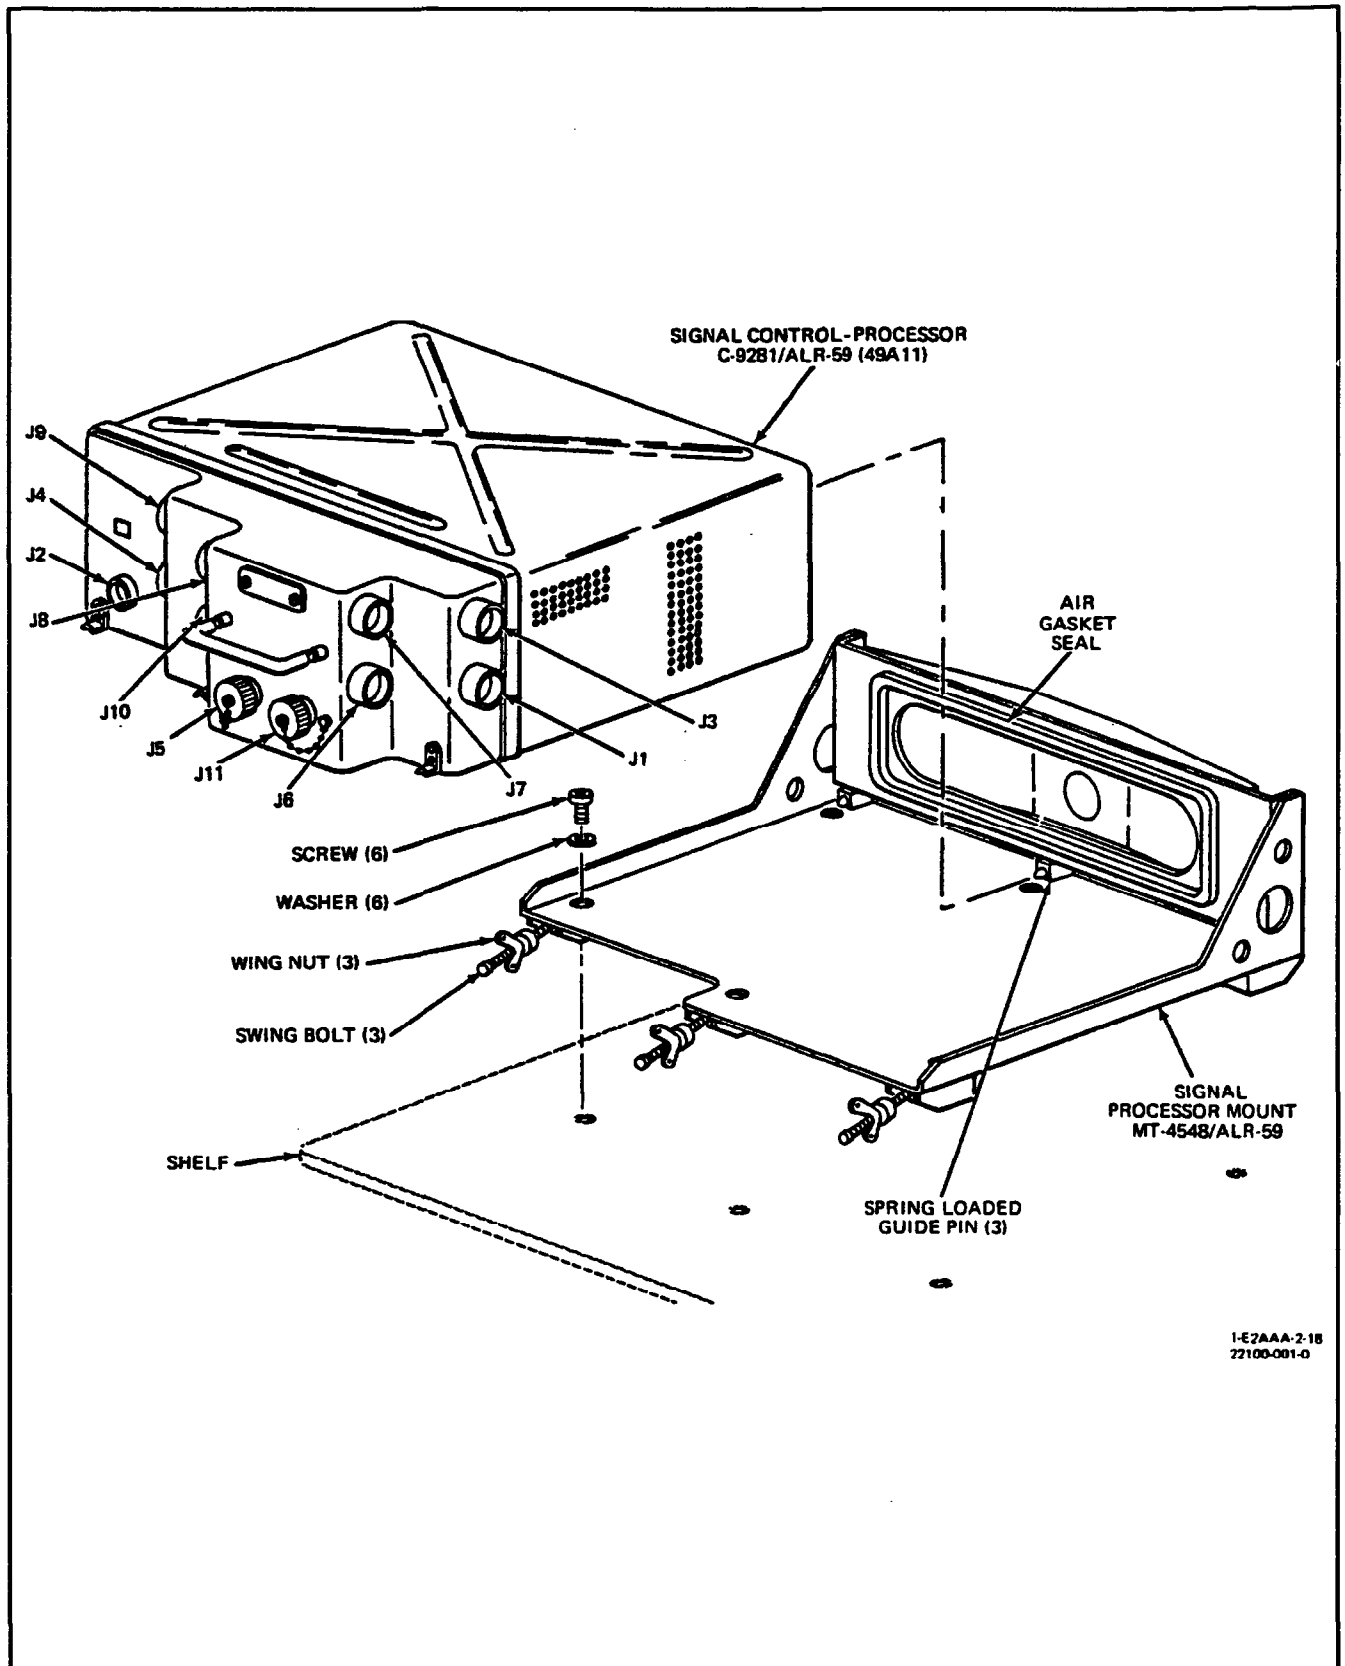

Figure 1. Removal and Installation of Signal Control-Processor C-9281/ALR-59 and Signal Processor Mount MT-4548/ALR-59
5. INSTALLATION. (See figure 1.)